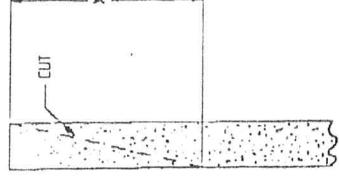

Fig. C-2
4. Remove from the head and mark on the diagonal using a straight line. Then cut on the line (see fig. C-2).